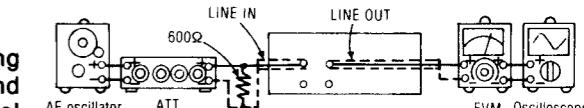

Fig. 7
1. Test equipment connection is shown in Fig. 7.
6. If it is not within the standard, adjust VR3 (L-CH) {VR4 (R-CH)} and repeat the step (2), (3) and (4) until the output is within the standard.